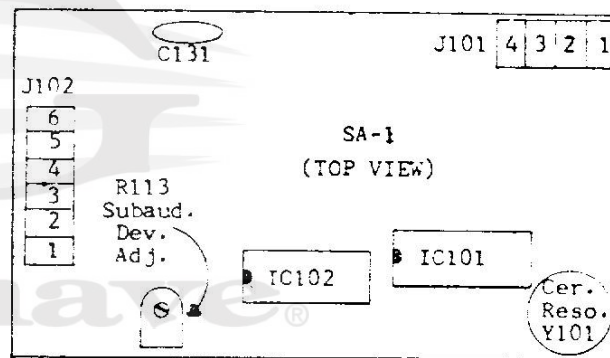

Figure 4-9. SA-1 Tone Board
2. Locate ceramic resonator on subaudible tone PC board (see Figure 4-9). Carefully pull resonator upward from PC board until resonator leads are free from the two pin sockets.